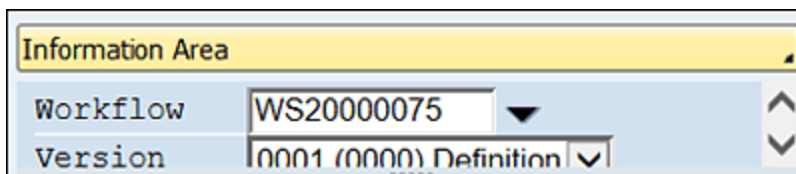

Figure 4.2 Workflow Builder: Information Area
This area contains the workflow number and version of the workflow. The current active version is loaded when Workflow Builder is open by default, but you also can select the previous version to view. The workflow follows the execution path as the active workflow when it's triggered. For example, the system triggered a workflow on November 1, 2023, and the current version of the workflow is 000. The workflow will start the activity flow per the active version (000). Let's say the developer changed the workflow by adding a few more steps and created another version called 001. So, the new active version will be 001. Any new workflow triggered will follow the 001 process flow steps. But the workflow triggered on November 1, 2023, will follow the 000 version. So, it may be needed to view the earlier version of the workflow for any old active workflow troubleshooting. Figure 4.2 shows the **Information Area**, which is normally found in the top-left corner of the Workflow Builder screen.